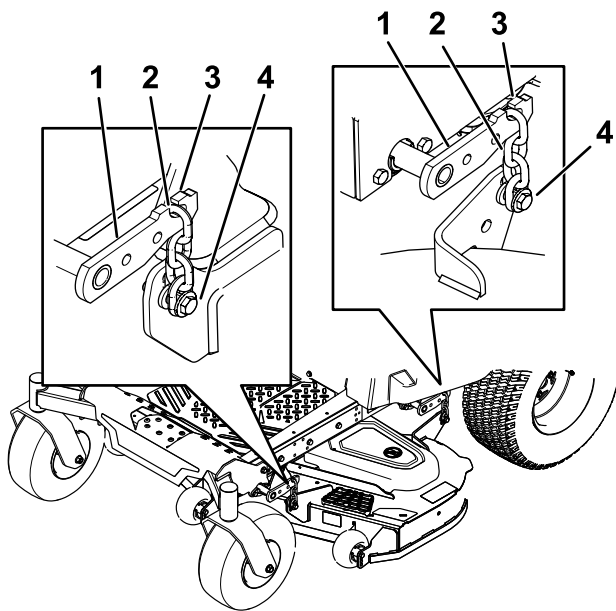

Figure 74
5. Loosen the adjustment bolts on all 4 corners so that the deck is sitting securely on all 4 blocks (Figure 74).
6. Ensure that there is tension on all 4 chains (Figure 74).
7. Tighten the 4 adjustment bolts (Figure 74).